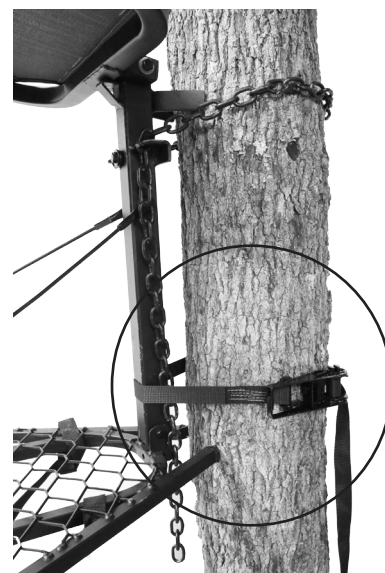

Figure 21
STEP 12: Position the ratchet strap as shown in Figure 21. Proper positioning of the ratchet ensures the treestand is engaged tightly to the tree trunk and will not shift under load. Proper ratchet strap positioning also ensures the treestand does not accidentally disengage from the tree when stepping into or out of the treestand.